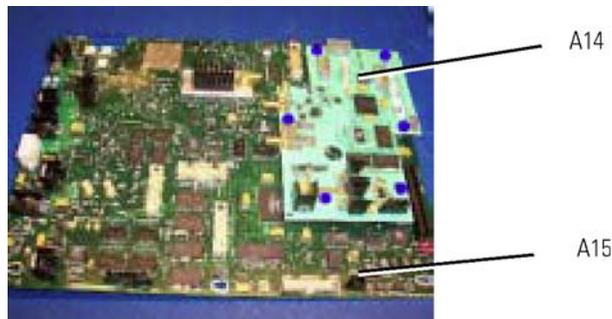

Figure 6-11. A13/A14 Assemblies
- 2 Remove the A13/A14 assemblies as shown in “To Replace the A13 Acquisition and 86100C A14 Counter Assembly \(Option 001\)” on page 7-45. Position A13/A14 as shown in Figure 6-11.